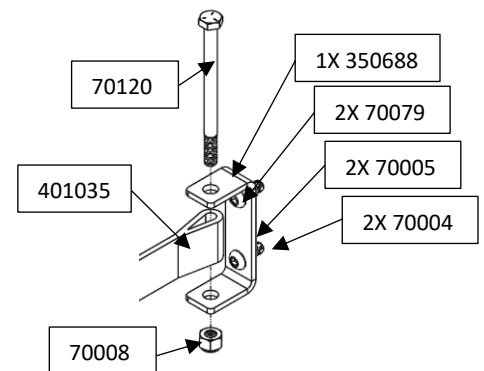

Figure 14: Complete Door Stop Install
26. Thread the other side of the door stop strap into door jam bracket (installed in step 22) using $\frac{1}{4}$ "-20 x 3" bolt and $\frac{1}{4}$ "-20 nylock nut (Figure 14).